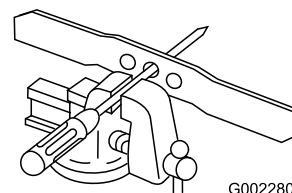

Figure 37
1. Check the balance of the blade by placing the center hole of the blade over a nail or screwdriver shank clamped horizontally in a vise (Figure 37).